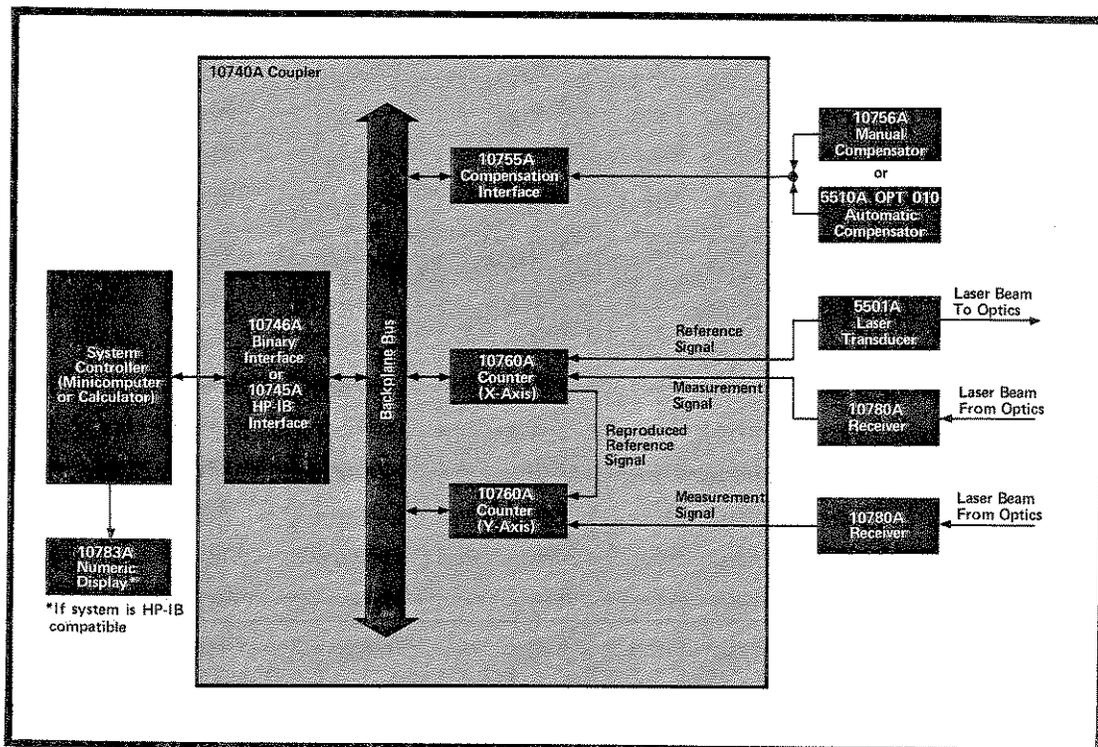

Figure 3-3. Counter-Based Computer Interface Electronics Block Diagram
3.6 COUNTER-BASED SYSTEMS. A typical counter-based system (Figure 3-3) contains the following electronic equipment:
Upon command from the system controller (Figure 3-3), the contents of the 10760A Counters are sampled. This can be accomplished independently or simultaneously on the X- and Y-axis.